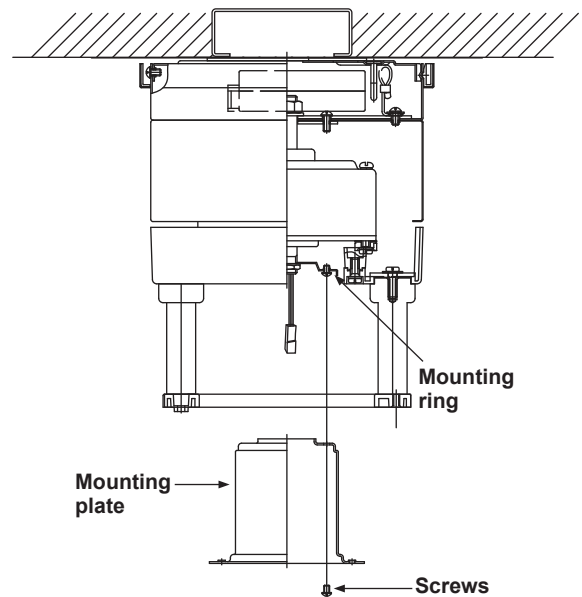

Figure 10
2. Place the key holes on the mounting plate over the 2 screws previously loosened from the mounting ring, turn mounting plate until it locks in place at the narrow section of the key holes. Secure by tightening the 2 screws previously loosened and the one previously removed. (Fig. 10)